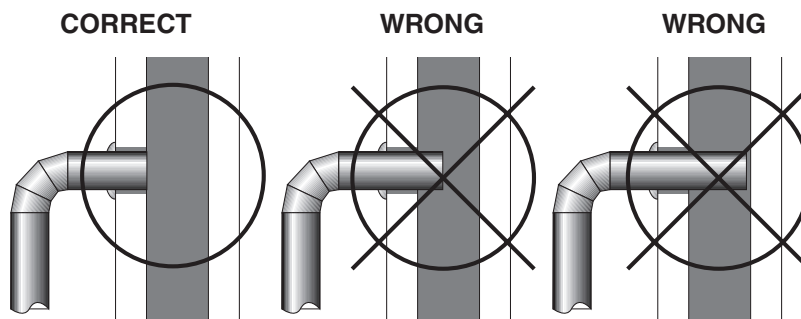

Fig.5 – Stovepipe/Flue Connections
4. The pipe cannot extend into the chimney flue (figure 5).
6. It is recommended that no more than two (2) 90 degree bends be used in the stovepipe installation. The use of more than two 90 degree bends may decrease the amount of draw and possibly cause smoke spillage. Where possible, use only corrugated (nonadjustable) elbows. These provide a better seal.